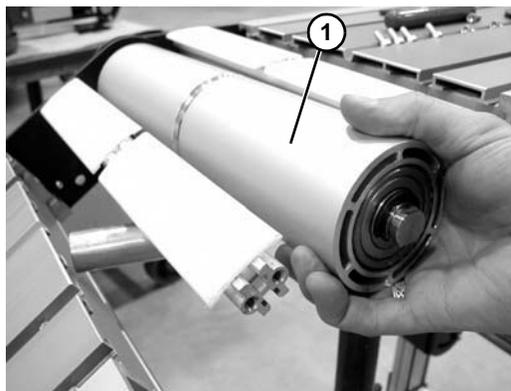

Figure 76
- Slide the idler pulley assembly (**Figure 76, item 1**) out of the knuckle plate on the opposite side.